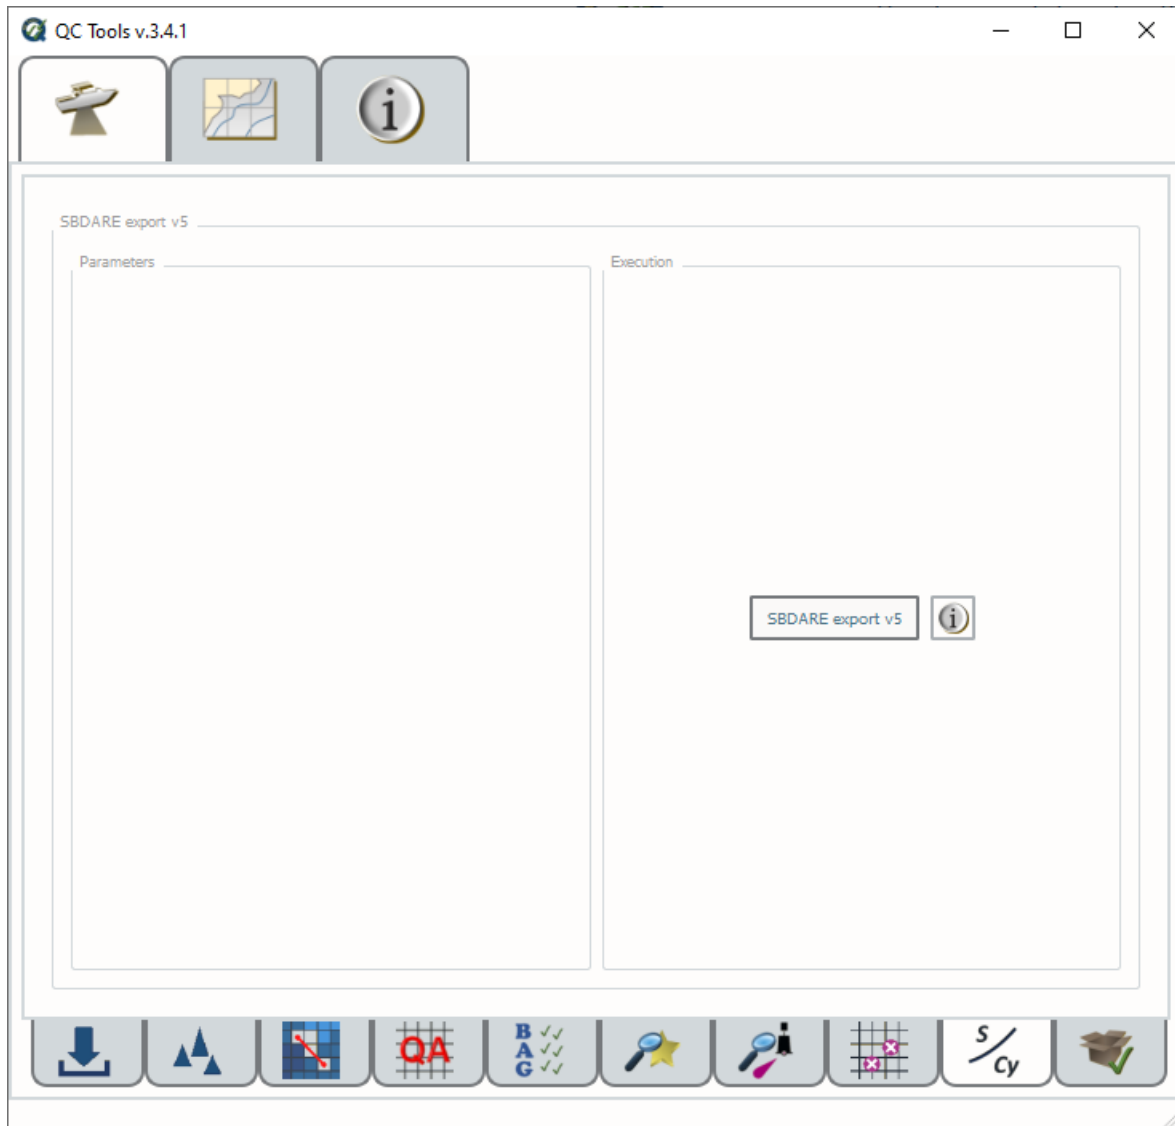

Fig. 2.52: SBDARE exports interface.
- Click **SBDARE export v5** (Fig. 2.52).